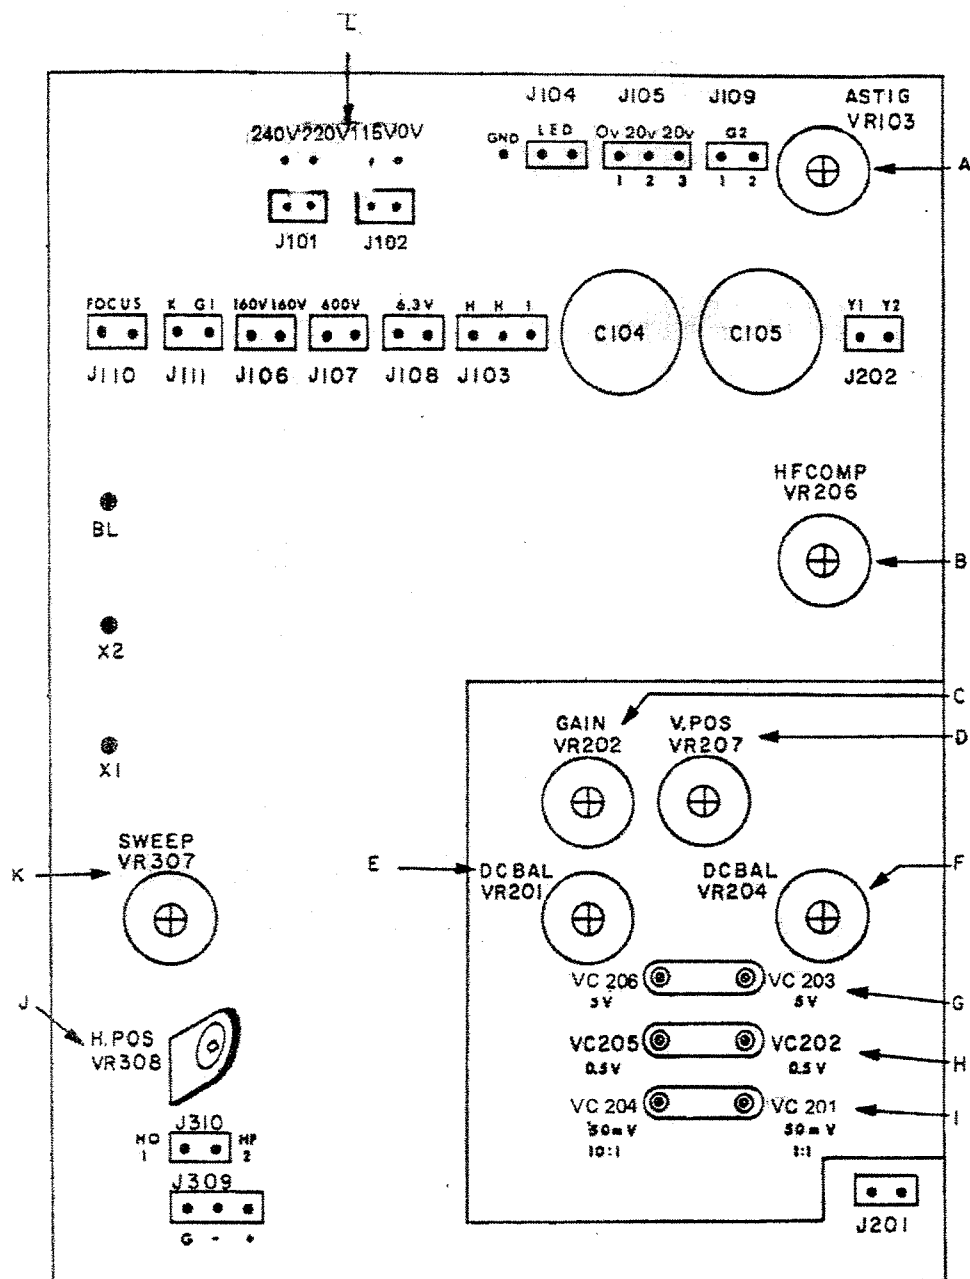

Fig. 17 Main circuit board
This oscilloscope is capable of being set to operate on either 100-120VAC or 200-240VAC 50 or 60 Hz supplies. To change the operating voltage, jumper wires at the rear of the main circuit board must be moved. (see Fig. 17 (L))
Set the AC-GND-DC selector to the GND position and the MODE selector to the X-Y position. Then adjust the ASTIG pot VR103 (see Fig. 17 (A)) and the focus control for the clearest round spot.
2. Adjust the DC BAL potentiometers (pots) VR 201 and VR 204 until the trace does not shift when the V.VARIABLE control is turned. (see Fig. 17 (E) and (F))
2. Adjust HF COMP pot VR206 (see Fig. 17 (B)) so that the display has flat extremes as shown in Fig. 15
4. Adjust the GAIN pot VR202 (see Fig. 17 (C)) so that the observed waveform is exactly 5 divisions high.
2. Adjust the internal V.POSITION pot VR207 (see Fig. 17 (D)) to center the trace on the screen.
3. Adjust VC201 (see Fig. 17 (I)) for flat extremes on the square wave. See Fig. 15 for representative waveforms.
5. Adjust VC202 (Fig. 17 (H)) for flat extremes on the square wave. See Fig. 15 for representative waveforms.
7. Adjust VC203 (Fig. 17 (G)) for flat extremes on the square wave. See Fig. 15 for representative waveforms.
3. Adjust the SWEEP calibrate pot VR307 (see Fig. 17 (K)) until one cycle of the displayed waveform is exactly 10 divisions long.
3. Re-adjust the SWEEP calibrate pot VR307 (see Fig. 17 (K)) until 10 cycles of the displayed waveform are exactly 10 divisions long.
2. Adjust the internal H.POSITION pot VR308 (see Fig. 17 (J)) so that when the front panel H.POSITION control is rotated from fully clockwise to fully counterclockwise the distances A and B shown in Fig. 20 are the same.